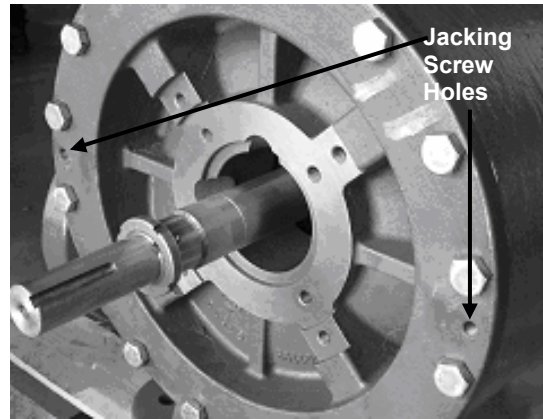
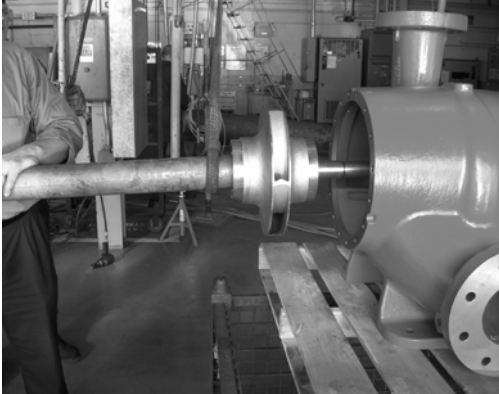

Figure 34: Removing the Coverplate Using Jacking Screws
Figure 41: Installing the Shaft Assembly
1. Ensure shaft threads are protected using tape or nuts. (See Figure 34.)
2. Remove the volute capscrews. Using jacking screws, pull the coverplate from the volute. (See Figure 34.)
9. Insert the shaft assembly into the volute. (See Figure 41.) Ensure that the shaft threads are protected using tape or nuts. (See Figure 34.)